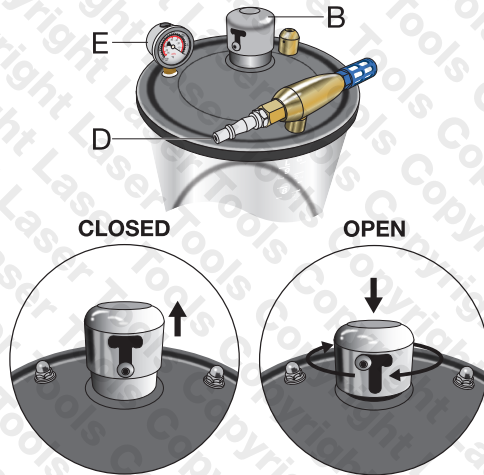

Fig 2
1. Refer to Figure 2: Close the vacuum extraction measurement reservoir sealing valve (B) by pressing down and rotating the valve to the centre slot position; release to let valve spring up to the closed position.
2. Refer to Figure 2: Close the vacuum extraction measurement reservoir sealing valve (**B**) by pressing down and rotating the valve to the centre slot position; release to let valve spring up to the closed position.